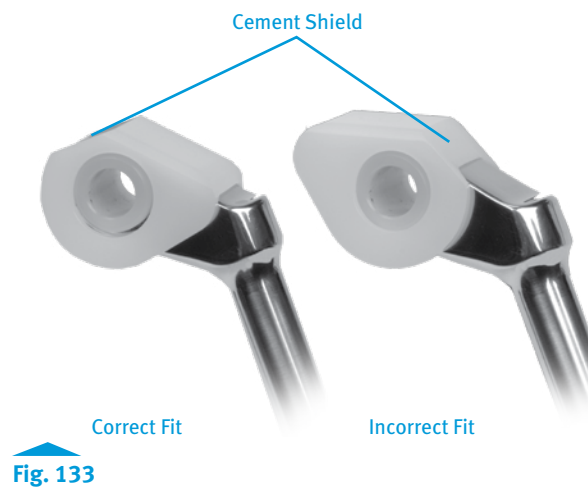

Fig. 133
- The holes in the polyethylene insert must match the bosses on the hinge pin bushing to ensure proper orientation (Fig. 133). If assembled backwards, the insert will not sit flush against the lateral side of the Hinge Post due to a “no-fit” condition with the hinge pin bushing. This will cause the post/insert assembly to not properly fit within the intercondylar notch of the NexGen RH Knee Distal Femoral Component upon assembly.